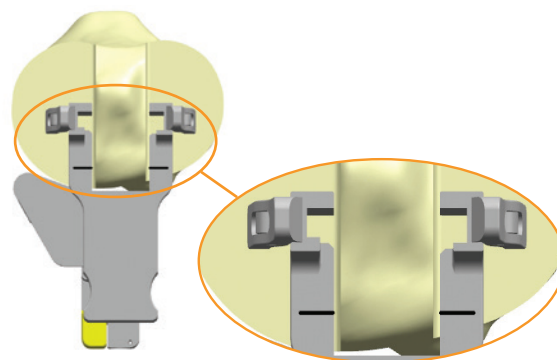

Figure 36
- 1 Attach the anterior eminence chisel guide to the datum block and lock the datum block (Figure 36).